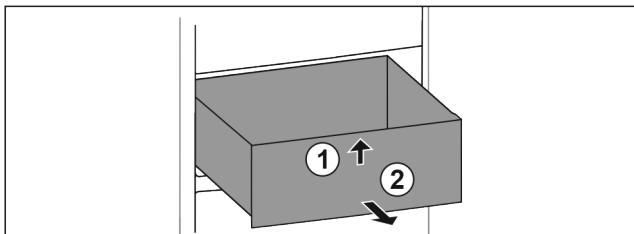

Fig. 32
- ▶ Lift up drawer at the front. Fig. 32 (1)
- ▶ Remove drawer to the front. Fig. 32 (2)